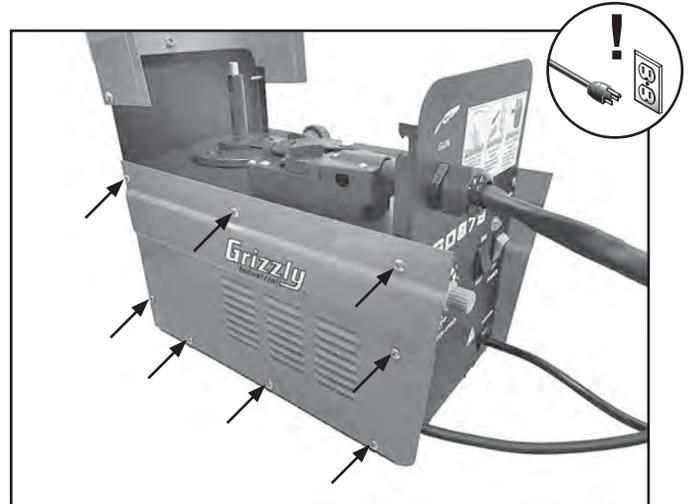

Figure 37. Removing left side panel.
3. Remove (8) Phillips head screws from left machine panel (see **Figure 37.**)